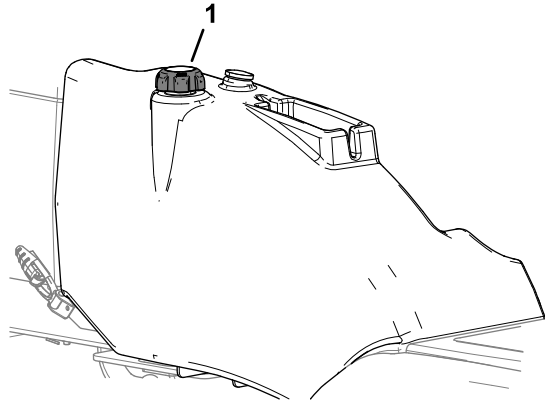

Figure 19
- Remove the cap from the fuel tank (Figure 19).